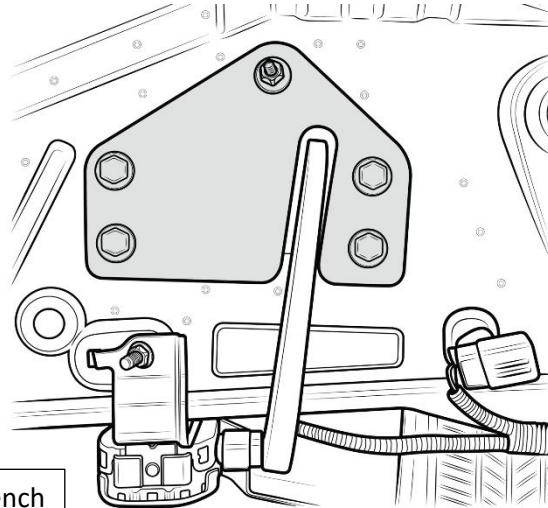

Fig 11-1
- (a) Using the (10) 14mm bolts, removed from the bumper beam support in step 7, install the LH and RH close out plates. (Fig. 11-1)